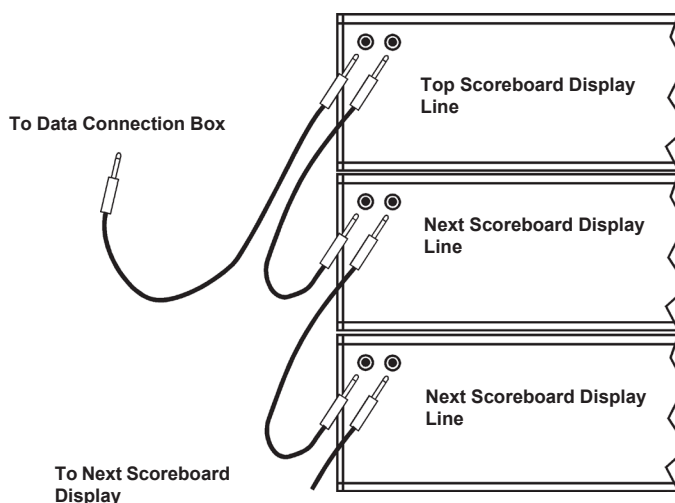

Figure 4-A: Linking a multi-line scoreboard
- 2) Working your way down if you started at the top, or up if you started at the bottom, repeat the process until all scoreboard display lines are linked as shown in Figure 4-A. If your installation has side-by-side display lines, link the columns of display lines together as well.
See Figure 4-A for the location of these connectors.